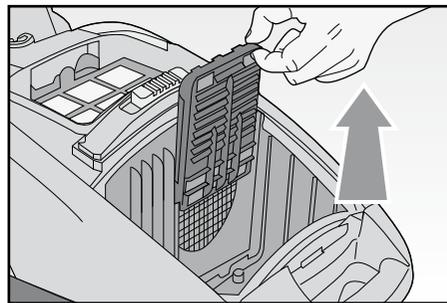

Fig. 9
- Remove the filter (FIG. 9) and shake it hard to remove dust and other residues. If it is very dirty, wash in warm soapy water; rinse thoroughly and leave to dry naturally. **DO NOT** use artificial drying means. To replace the filter, contact a Technical Assistance Centre.